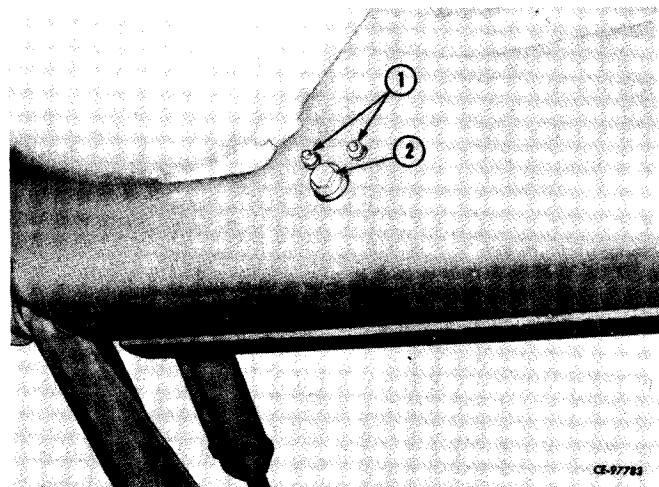

Figure 2-12
From underneath the tractor remove cap screws, lock washers and nuts (1, Fig. 2-12) disconnecting crankcase drain line (2) from frame. Wire line to side of engine.
From underneath tractor position engine crankcase drain line (2, Fig. 2-12) through frame. Install and tighten cap screws, lock washers and nuts (1).